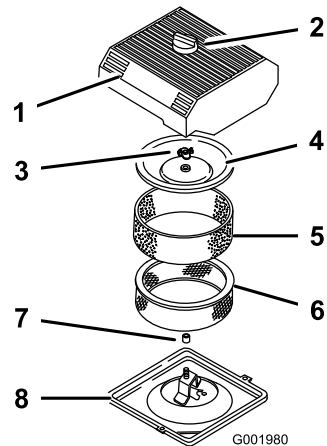

Figure 42
3. Clean around the air cleaner to prevent dirt from getting into the engine and causing damage (Figure 42).
- Loosen the knob on the air cleaner cover and remove the cover (Figure 42).
- Carefully slide the foam element off the paper element (Figure 42).
- Unscrew the cover nut and remove the cover and paper element (Figure 42).
- Carefully slide the foam element onto the paper air cleaner element (Figure 42).
- Install the cover nut finger-tight against the cover (Figure 42).
- Install the air cleaner cover and knob (Figure 42).